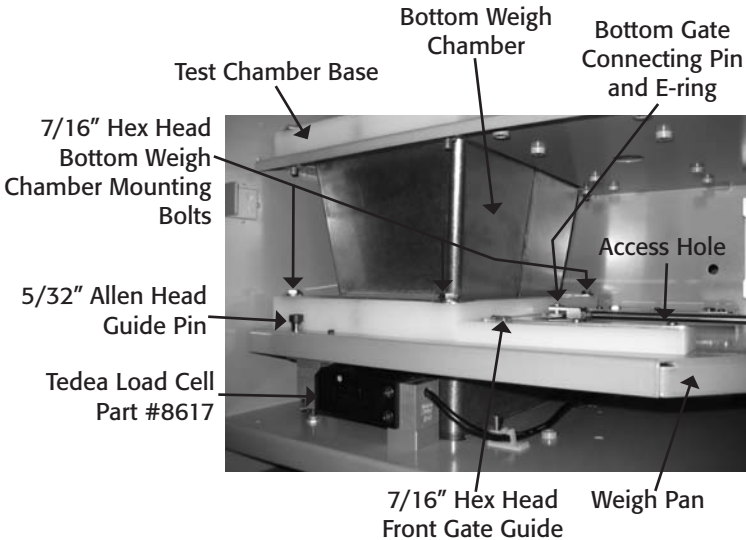

Figure 8-3: GrainGage weigh pan assembly
7. Slide the bottom gate halfway open so the gate connecting pin on the actuator aligns with the hole in the weigh pan (refer to Figure 8-3 GrainGage Weigh Pan Assembly).
10. Using the 7/16" socket and ratchet (without extension), remove the two 1/4-20 bolts on the gate guide closest to you (front gate guide) and remove the three 1/4-20 mounting bolts from the bottom weigh chamber (two in front and one in back). Set the gate guide aside for future reference (Refer to Figure 8-3).